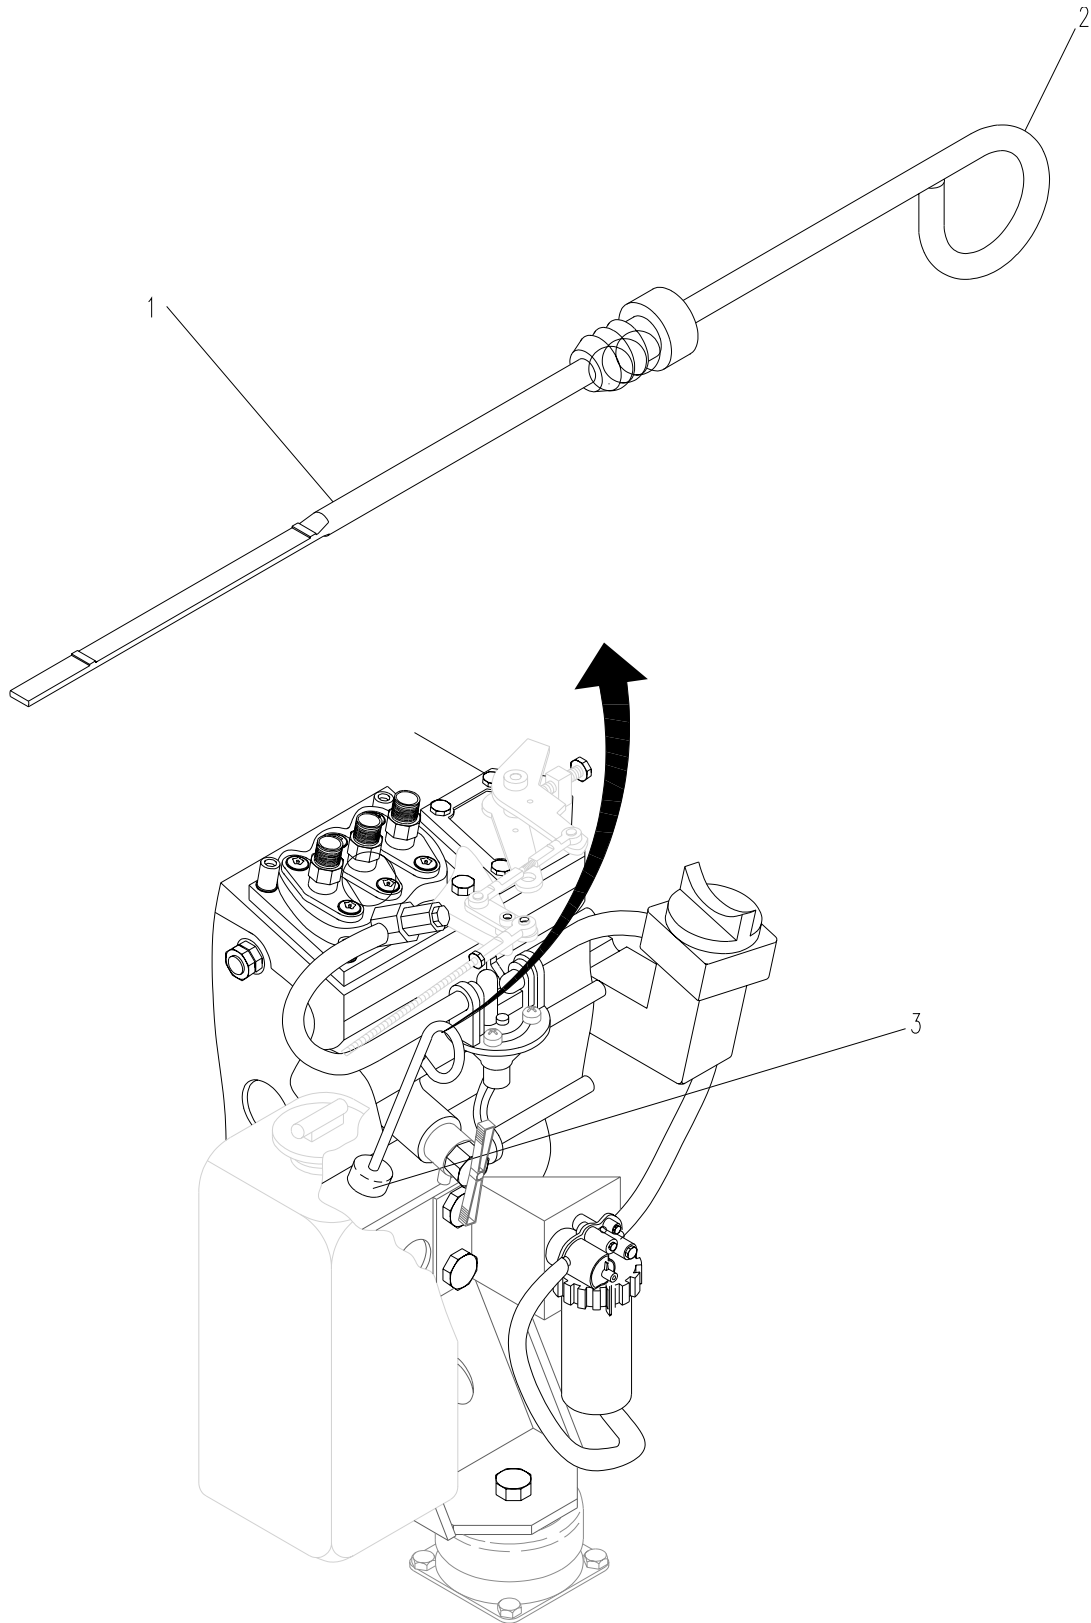

Figure 3-1. Oil Dipstick
- a. Grasp ring (2, Figure 3-1) on oil dipstick (1).
- b. Pull oil dipstick (1) straight out of oil dipstick hole (3) in engine block. Do not bend oil dipstick (1) when removing.
- c. Insert end of oil dipstick (1) into oil dipstick hole (3) in engine block.
- d. Push straight down until oil dipstick (1) is fully seated against engine block.